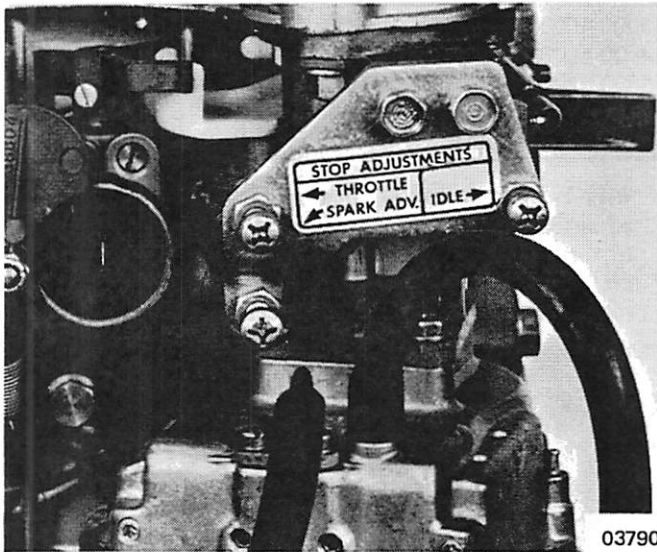

Figure 9. Throttle Stop Screw
2. Adjust "Throttle Stop" screw on stop bracket (Figure 9) to allow full throttle shutter opening but not to allow throttle shutters to act as a stop or the carburetor cluster to hit carburetor filter bowl.